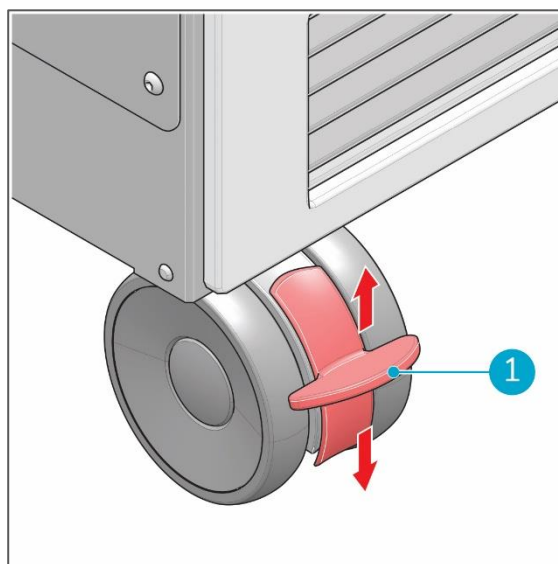

Figure 5
Always place the ICon Pro in an upright position. Once correctly placed on location, always lock the brakes on the front caster wheels (Figure 5, pos. 1) when the ICon Pro is in operation. Push the red brake lever down to lock the brake, pull it up to unlock the brake.